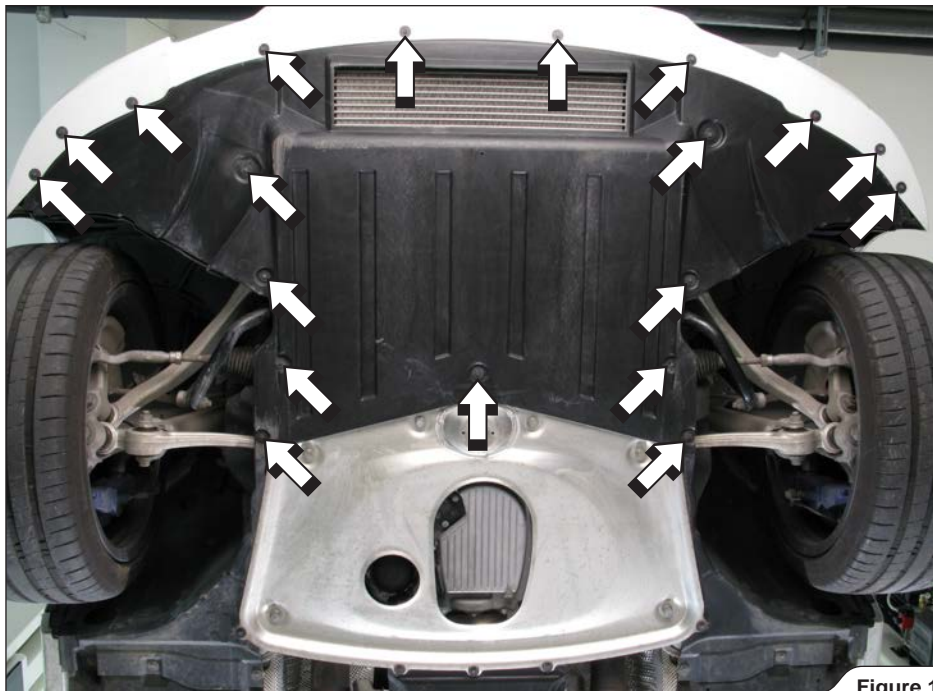

Figure 1
1. Unscrew all marked bolts and remove the engine's and transmission's protection off the vehicle (Figure 1, 2, 3).